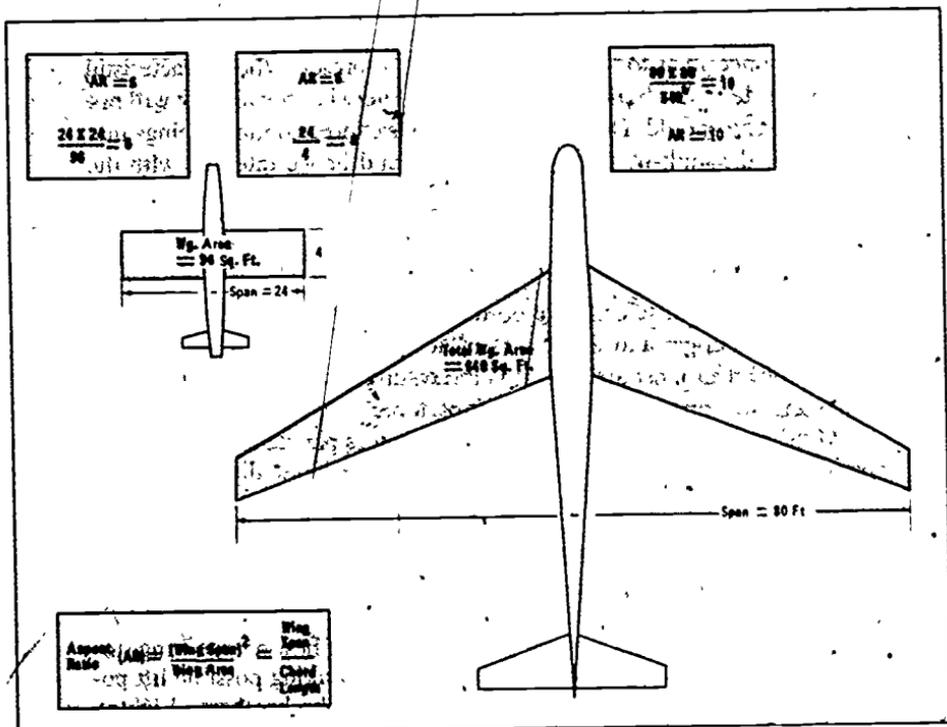

Figure 20 Aspect Ratio Varies with the Planform of an Airfoil
pute aspect ratio (AR) by squaring the span and dividing this by the total wing area. Referring to Figure 20, we note that with the small square-winged aircraft, AR can easily be computed using either average chord length or the wing area, but in the large aircraft wing area is much simpler to use.